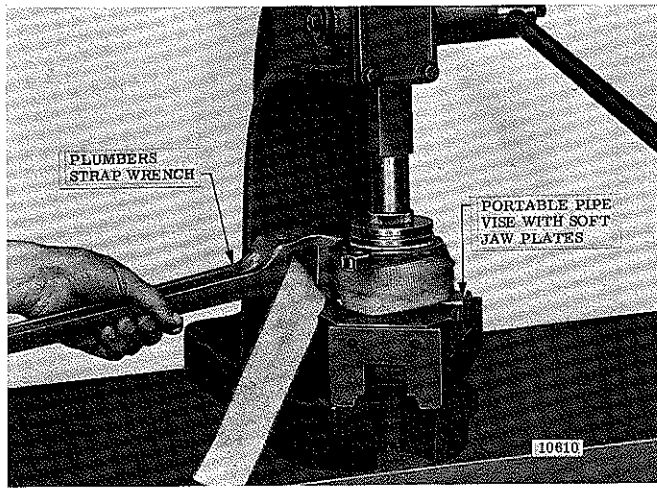

Figure 7-28. Winding Load Brake Gear Using a Strap Wrench to Set Up Load Brake Spring.
(6) The brake spring must be pre-loaded at assembly to a torque of from 6 to 10 lb. ft. when used with yellow (color code) spring and a torque of 10 to 14 lb. ft. when used with plain (no color code) spring. (See Section IX for proper spring). This is accomplished using a plumber's strap wrench to wind (rotate) load brake gear to set up spring (fig. 7-28) while pressing brake flange into place using an arbor press. Clamp pinion end of shaft into a portable vise to keep brake from rotating in press. Use brass or copper jaw plates on vise to protect pinion gear teeth. Wind gear counter-clockwise (viewing brake from flange end) with strap wrench and press down on flange until snap ring groove in shaft is exposed allowing snap ring to be installed. Use extreme care not to over wind spring as yield will result and final spring torque will be reduced. Do not wind gear beyond point necessary to install snap ring in groove.